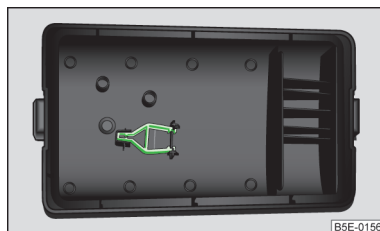

Fig. 219
- Remove the plastic clip under the cover of the fuse box in the engine room » Fig. 219 on page 254 .